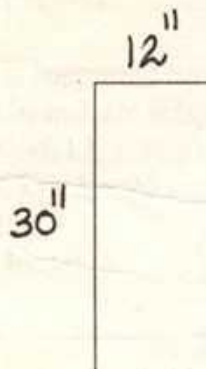

Fig. 1
6. A beam with a cross section of 12 in. × 30 in. (Fig. 1) is subjected to a working DL of 1.8^k/ft. including self wt. and a working LL of 1.3^k/ft. Span of beam = 24 ft.